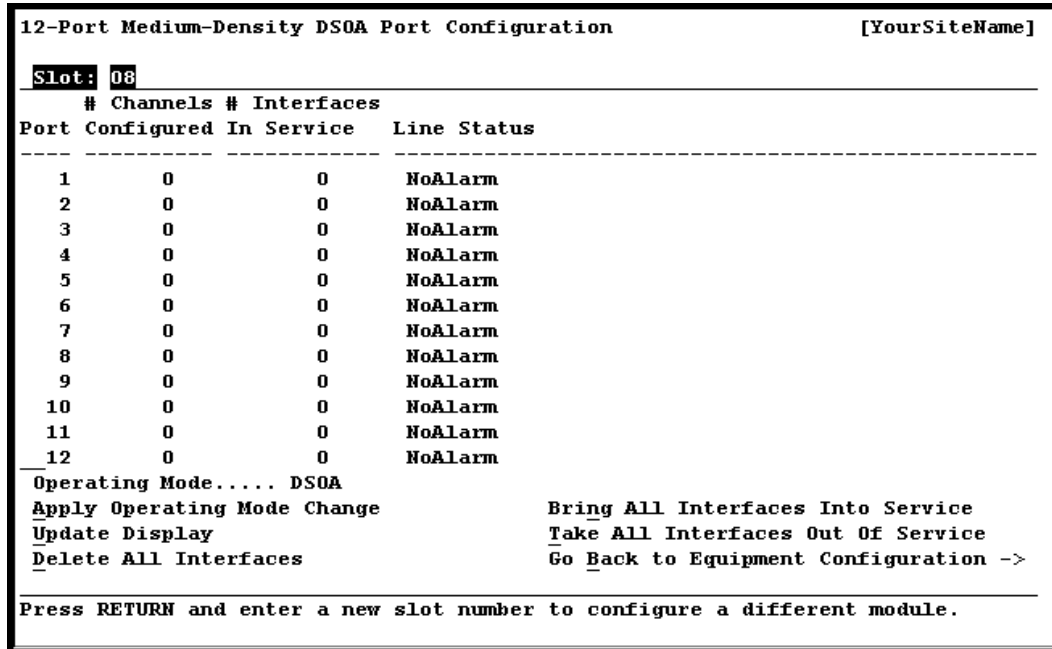

Figure 3-5. 12-Port Medium-Density DS0A Port Configuration Window
- On the Equipment Configuration window, select an **MD-DS1E1DS0A-** module in the Card Type column and press Enter. The 12-Port Medium-Density DS0A Port Configuration window is displayed (see Figure 3-5).